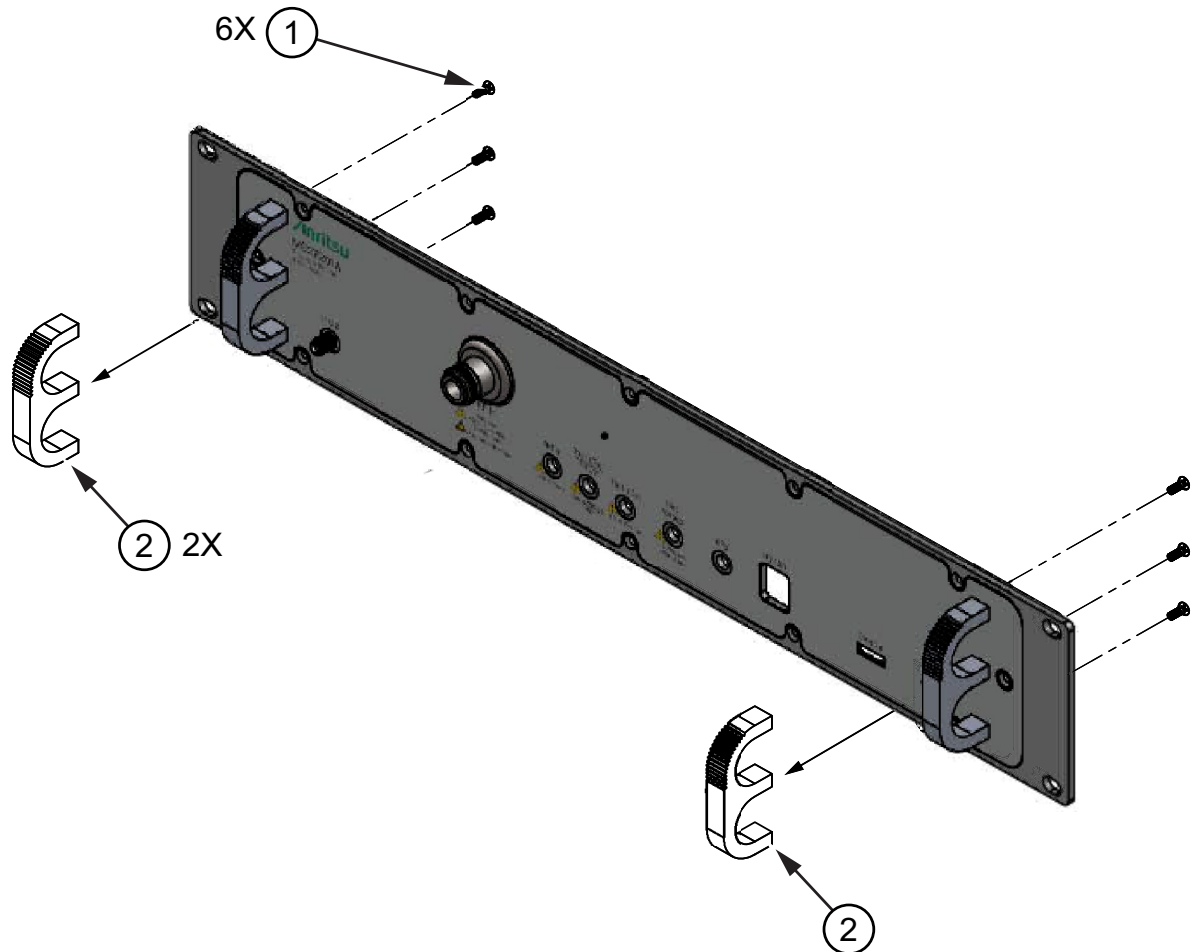

Figure 3-4. Handle Removal
3. Using a Phillips screwdriver, remove the six screws shown at location 1. See Figure 3-4.
4. Remove both handles from the front panel shown at location 2. See Figure 3-4.